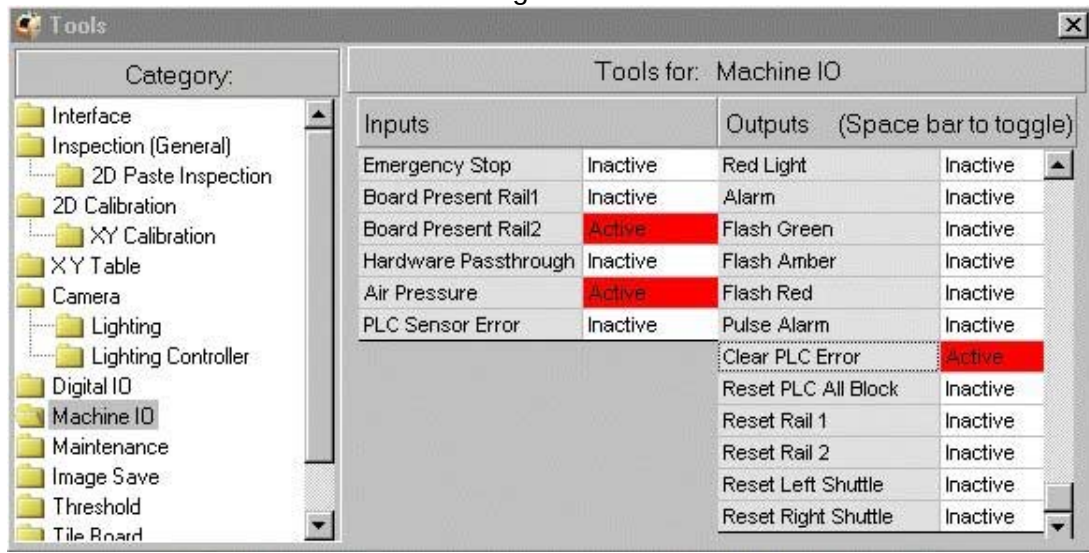

Figure 4-3 Machine IO Menu
2. Select **Machine IO** folder from the **Category** folder of the **Tools** menu. The **Machine IO** menu is illustrated in Figure 4-3: